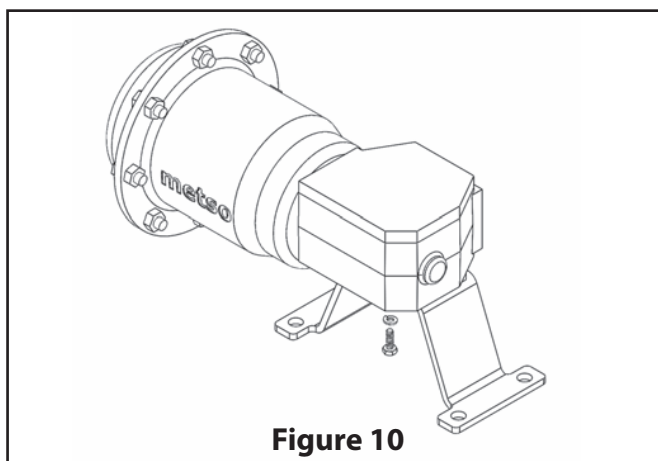

Figure 10
2. Assemble bracket to actuator as shown in **(Figure 10)**. Tighten to torque listed in **(Table 3)**.